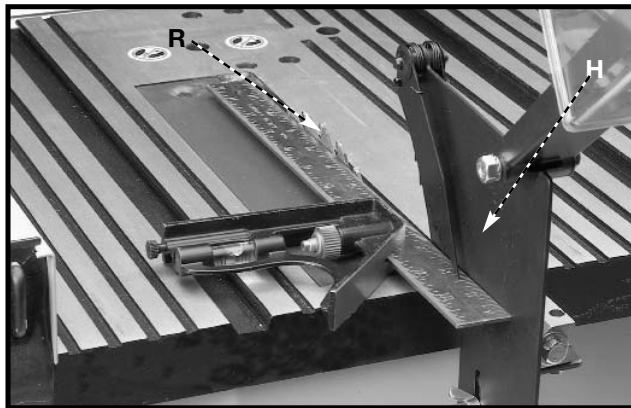

Fig. 16
8. Use a straight edge to see if the splitter (H) Fig. 16 is aligned with the saw blade (R). If an adjustment is necessary, the splitter (H) can be moved left or right and rotated.